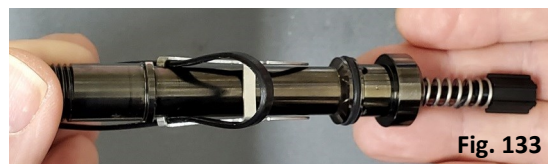
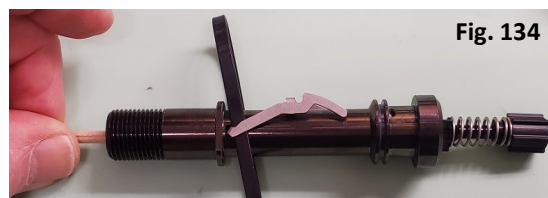

Fig. 133
Fig. 134
19. Simply tilt the barrel hose-end up and the poppet assembly will drop free from the other end (Fig. 133). If the Low Pressure Seat (#12) is stuck to the Orifice (#28), the poppet assembly may not drop out. In that case, **gently** push a 1/8" wooden dowel through the center hole in the orifice from the hose end and dislodge the assembly (Fig. 134).